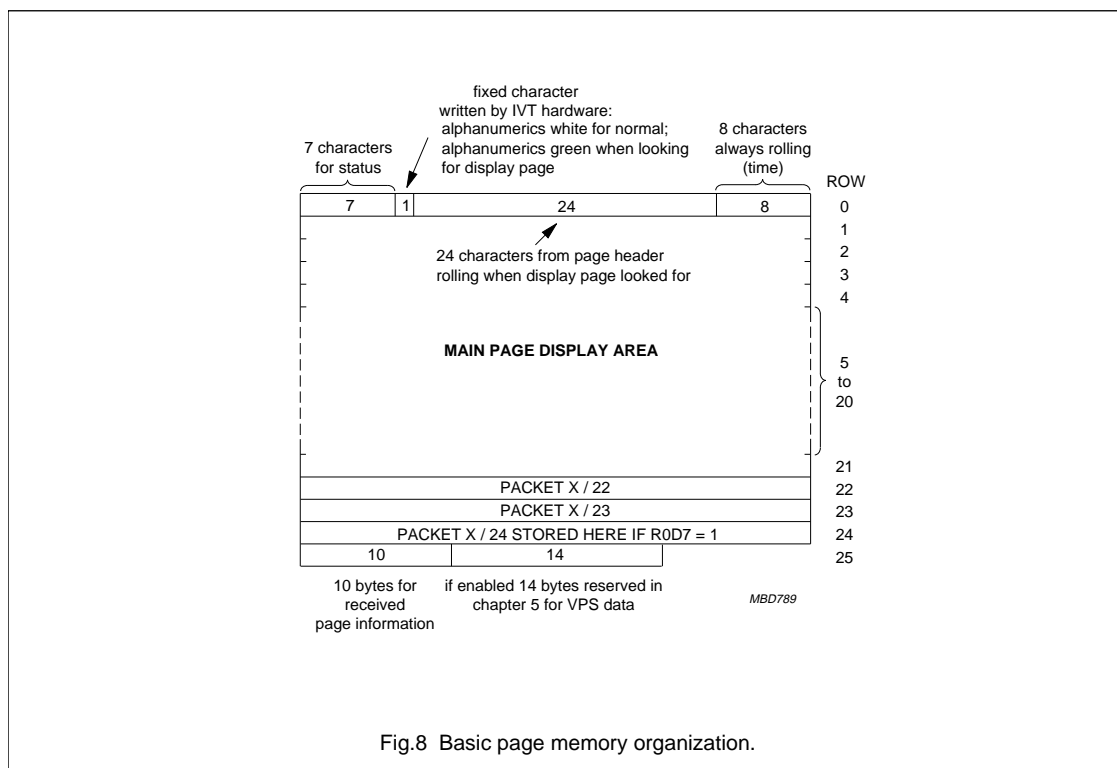

Fig.8 Basic page memory organization.
The organization of the page memory is illustrated by Fig.8. The IVT1.8\* provides an additional row as compared with first generation decoders; this brings the display format up to 40 characters by 25 rows. Rows 0 to 23 form the teletext page; row 24 is the extra row available for software generated status messages and FLOF/FASTEXT prompt information.
**REMARK TO FIG.8**